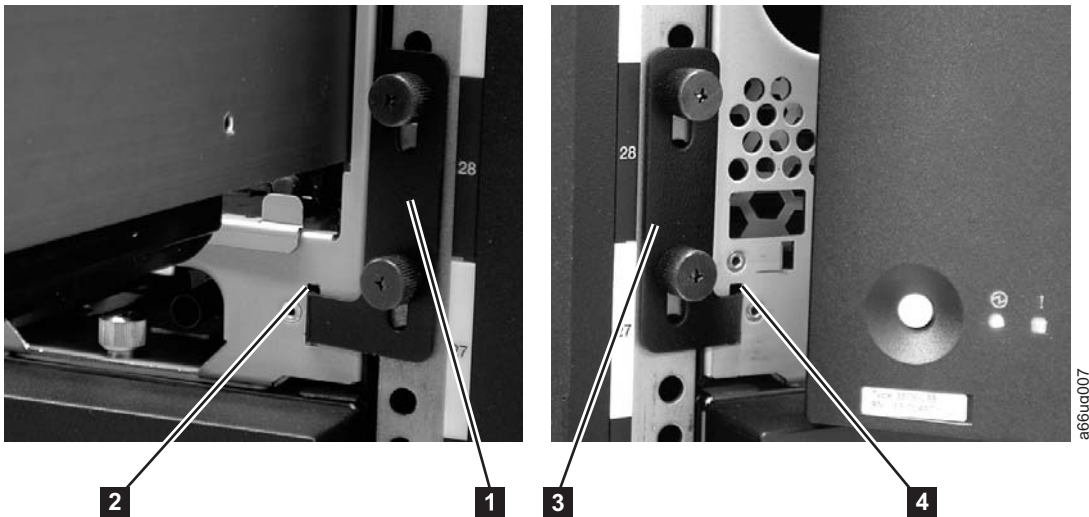

Figure 12-47. Removing the rack ears on a control module
- b. Remove the right rack ear (**2** in Figure 12-47).
- c. Remove the left rack ear (**3** in Figure 12-47).